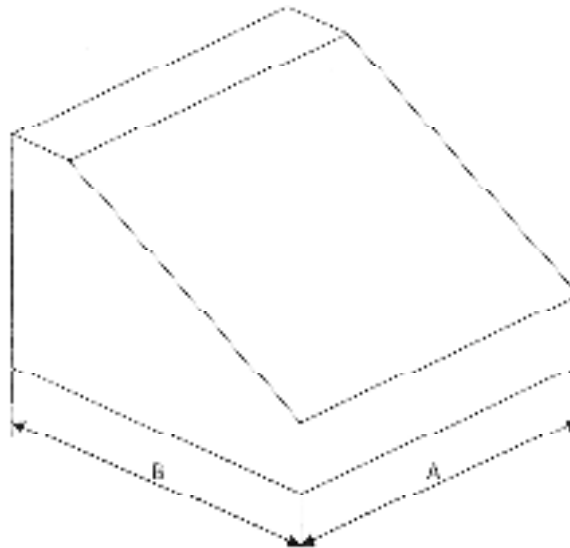

Figure 1
- 4 (a) **Figure 1** is drawn to scale of 1:2.